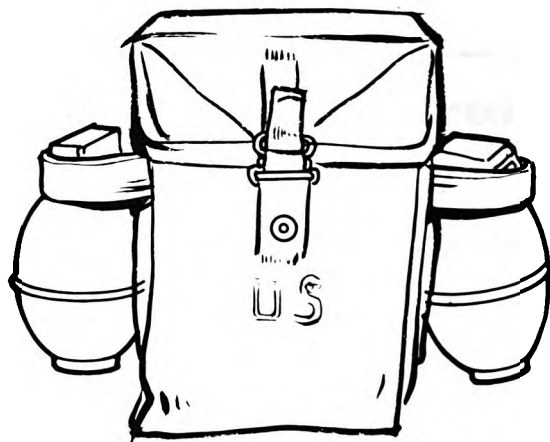

Figure 2.
2. Attaching Grenades to Ammo Pouches (figure 2):